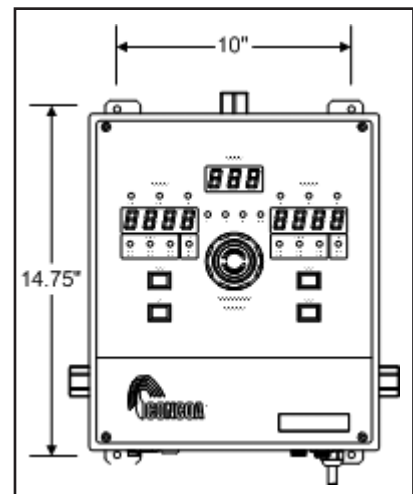

Figure 4B - IntelliSwitch®
9. As illustrated in Figure 4B, the IntelliSwitch enclosure has the mounting bracket holes integrated at each corner. Position the IntelliSwitch, with attached MicroManifold(s), such that the inlet connections are centered on the horizontal line and the outlet on the vertical line.